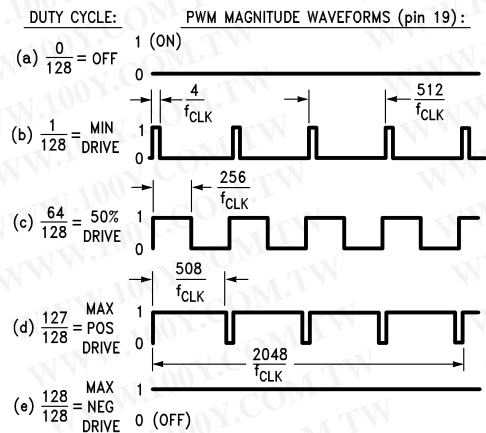

Figure 14. PWM Output Signal Format (Sign output (pin 18) not shown)
- LM629 (sign/magnitude outputs): Outputs a PWM sign signal on Pin 18 (11 for surface mount), and a PWM magnitude signal on Pin 19 (13 for surface mount). Pins 20 to 25 are not used in the LM629. Figure 14 shows the PWM output signal format.
The LM629 provides 8-bit, sign and magnitude PWM output signals for directly driving switch-mode motor-drive amplifiers. Figure 14 shows the format of the PWM magnitude output signal.